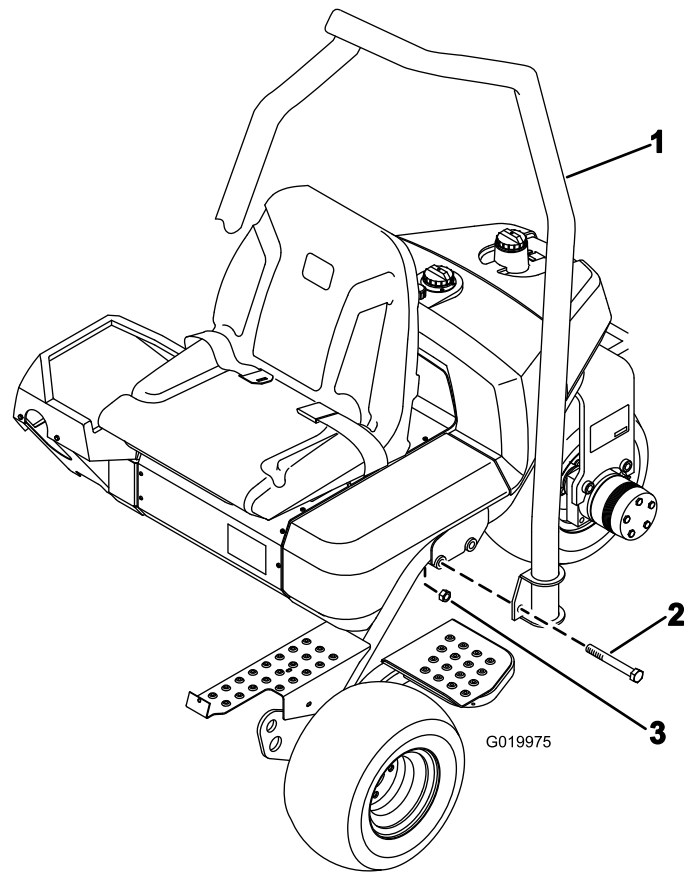

Figure 7
2. Lower the roll bar onto the frame, aligning it with the mounting holes (Figure 7).
3. Secure each side of the roll bar to the frame with 2 bolts (5/8 x 4-1/2 inches) and locknuts as shown in Figure 7.
1. Position the roll bar so the top of the tube is curved toward the front of the machine (Figure 7).